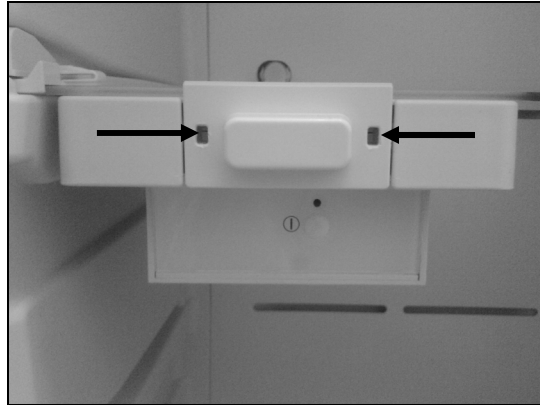

Figure 010-21: Reed Switch
3. Use a flathead screwdriver to release the retainers securing the sides of the reed switch assembly to the glass shelf. See arrows, Figure 010-21.